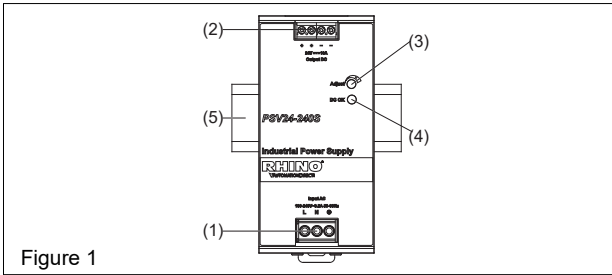
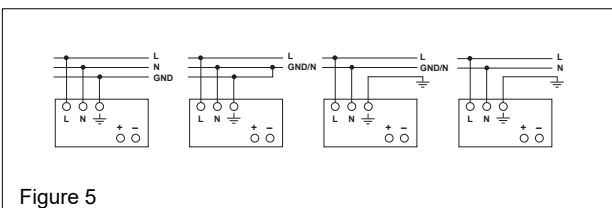

Figure 1
Figure 5
## 2. Device description (Fig. 1)
### 5.1. Input connection (Fig. 1, Fig. 5)
Use L, N and GND connections of input terminal connector (see Fig. 1 (1)) to establish the 100-240 VAC connection. Typical connection methods are shown in Figure 5.
### 5.2. Output connection (Fig. 1 (2))
Use the “+” and “-” screw connections to establish the 24VDC connection. The output provides 24VDC. The output voltage can be adjusted from 22 to 28 VDC on the potentiometer. The green LED DC OK displays correct function of the output (Fig. 1 (4)). The device has a short circuit and overload protection and an overvoltage protection limited to 28.8-35.2 VDC.